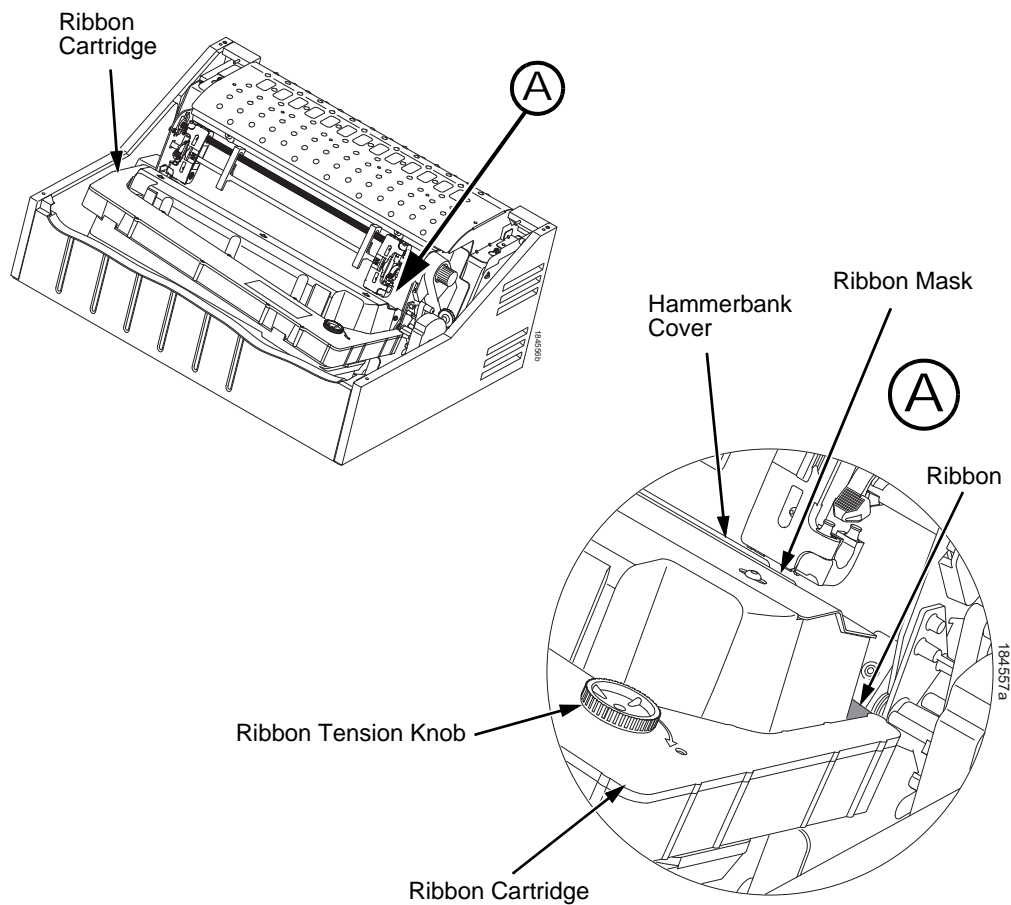

Figure 23. The Ribbon Cartridge Snapped in Place
7. Rock the cartridge downward, making sure that the ribbon goes between the guide and the mask (see Figure 23). You will feel it snap into place.